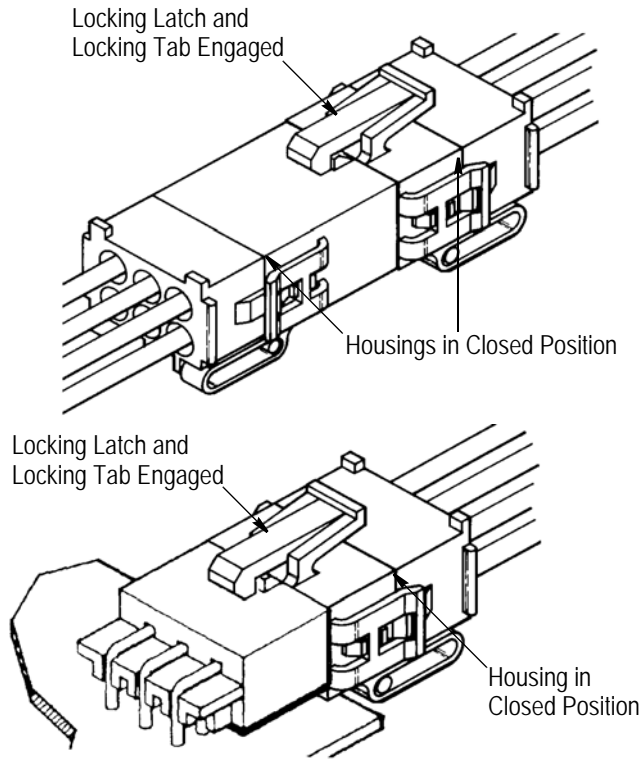

Figure 5
2. Align and push the housing into the mating connector until it bottoms and the locking latch engages with the locking tab. See Figure 5.